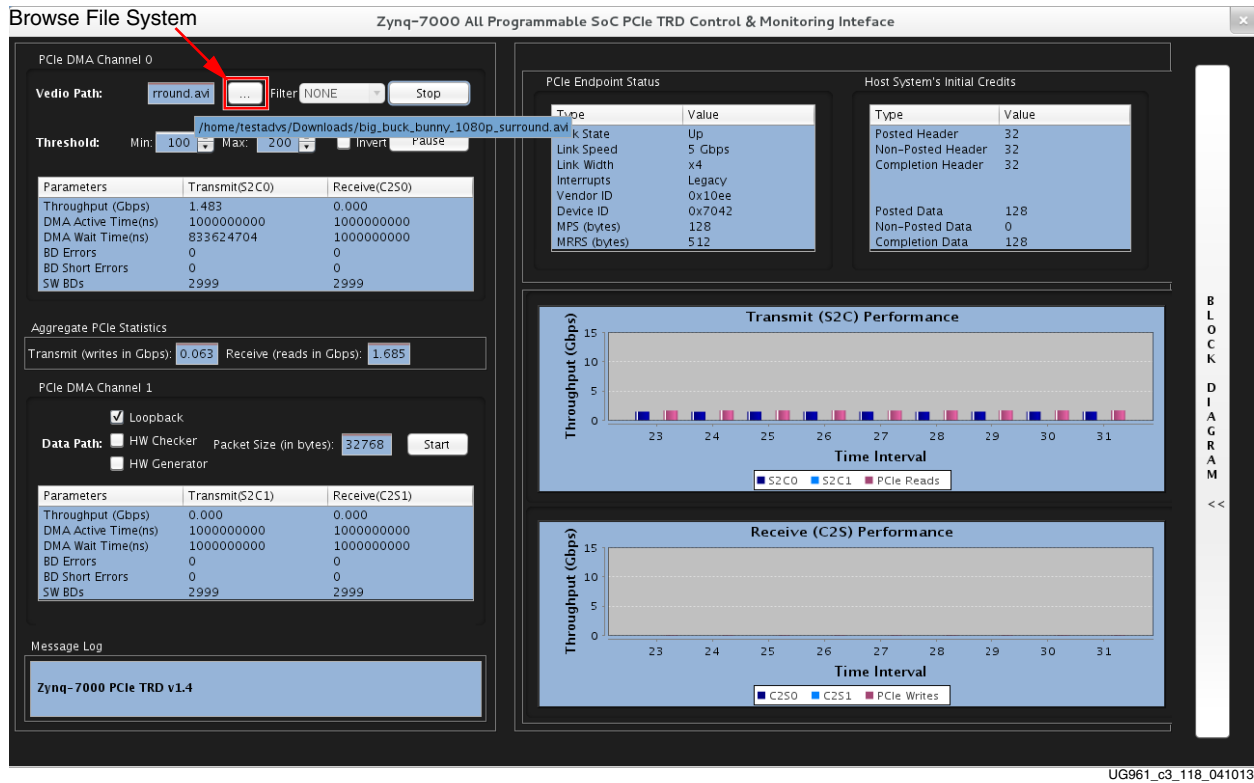

Figure 3-18: Video Mode GUI
- After installing the Video mode driver as described in step 4, page 26, the control and monitor user Interface pops up as shown in Figure 3-18. The control pane shows control parameters such as a video path browse option and sobel filter type selection.
- To select a video file present on the host file system, click the browse file system button (Highlighted in Figure 3-18).